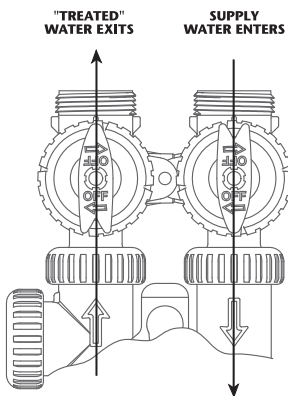

FIGURE 1
1. **NORMAL OPERATION POSITION:** The inlet and outlet handles point in the direction of flow indicated by the engraved arrows on the control valve. Water flows through the control valve for normal operation of a water softener. During the regeneration cycle this position provides regeneration water to the unit, while also providing untreated water to the distribution system (**Fig. 1**).